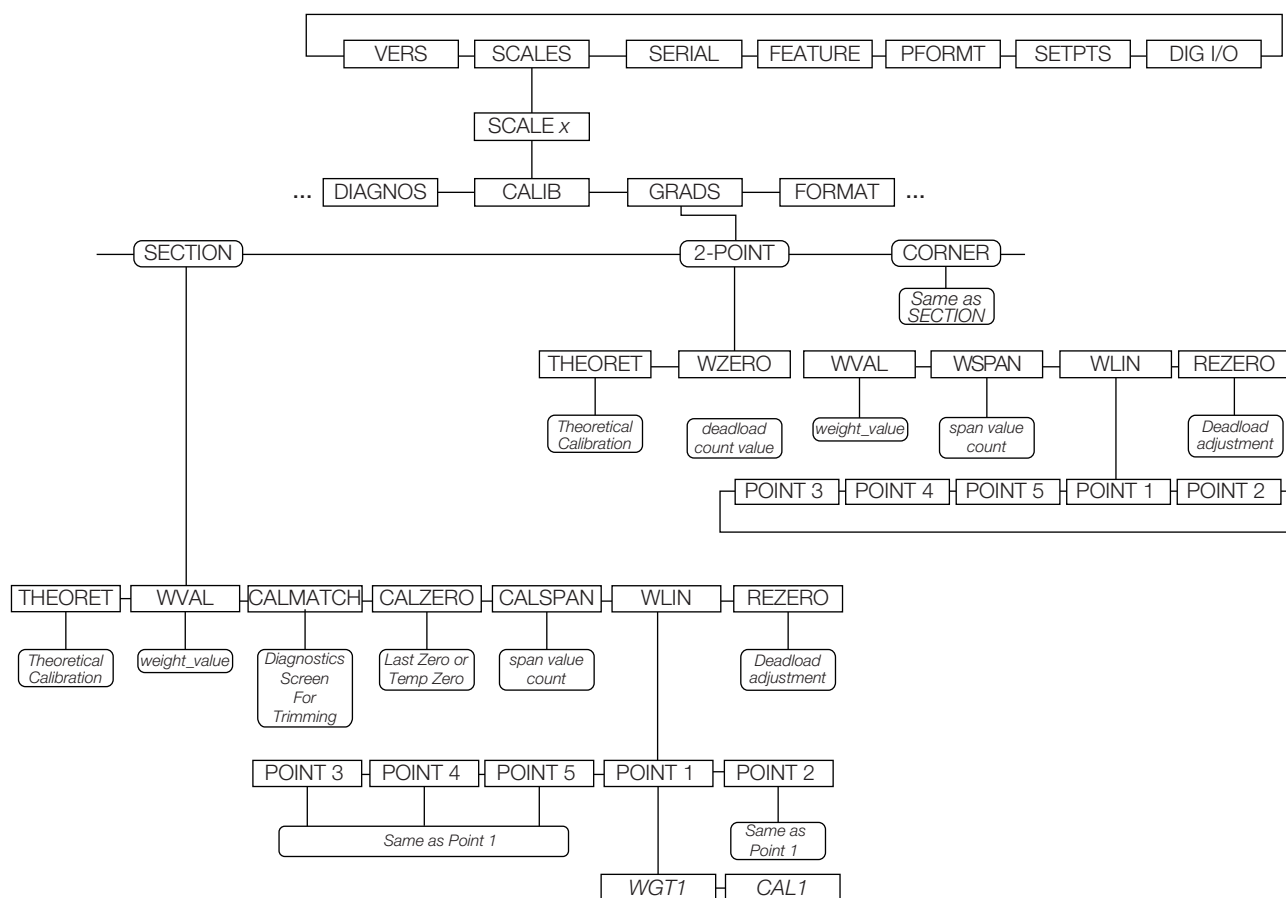

Figure 4-12. 920i Calibration Submenu
1. Ensure the scale is empty and navigate to the **Theoretical Calibration** parameter (Figure 4-12 on page 65).